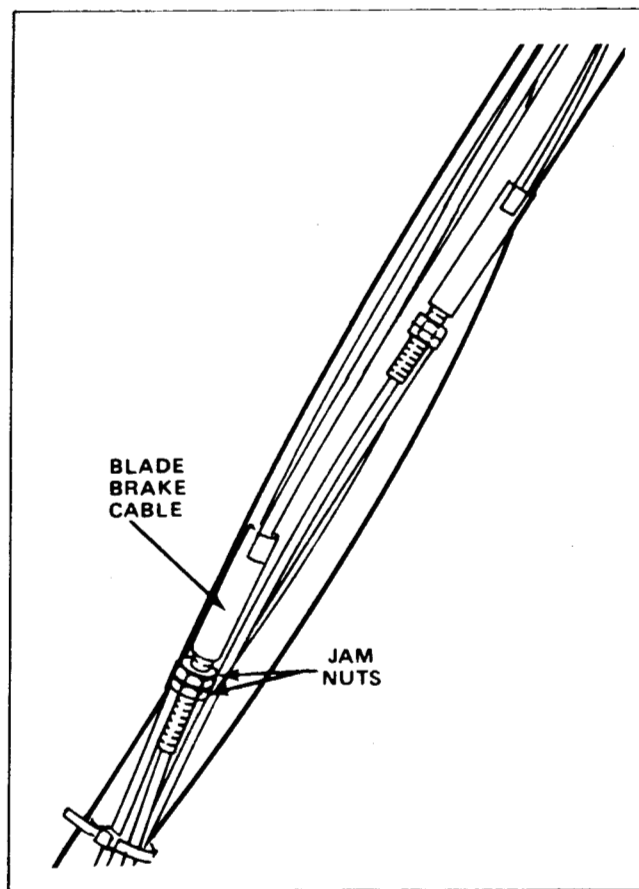

Figure 27
5. To adjust, loosen the bottom jam nut on the blade brake cable as shown in Figure 27. Adjust the top jam nut until spring dimension is as near as possible to nut; not less than 25 mm (1"). See note below.